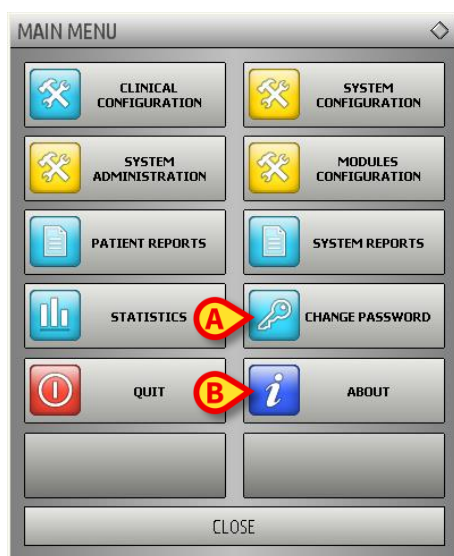

Fig 41
The **Change Password** button on the DIGISTAT[®] main menu (Fig 41 A) opens a window making it possible to change the password of the user currently logged.
- click the **Change Password** button (Fig 41 A).
The **About** button on the DIGISTAT® main menu (Fig 41 **B**) displays a window containing information on the DIGISTAT® version installed and the related licences (Fig 43).